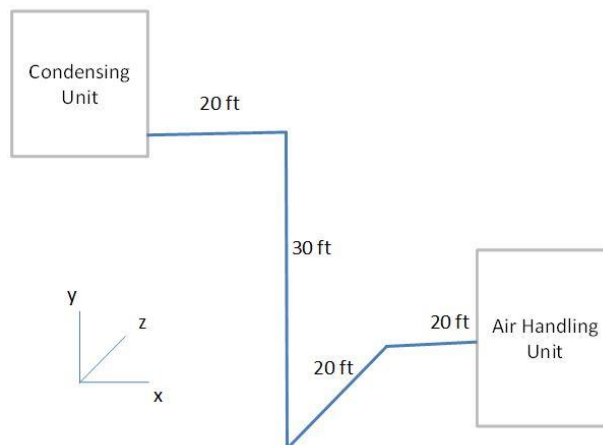

Figure 159 - Isometric Suction Line Sketch
8. Enter the total quantity of 90 degree elbows. The EES Toolkit calculator uses the 90° long radius values from the Crane Handbook (see **Table 14** - Equivalent Length Table) to calculate the equivalent length of the bends. Typically all lines run the same route so the quantity of elbows would be the same for all lines. The exception is when the suction line has oil traps every 20 feet when the suction flow is up, or on heat pump units when the discharge line has oil traps every 12 feet when the discharge flow is up. Each oil trap will include four 90° long radius bends. From **Figure 159**, if suction is up, enter Quantity = 7